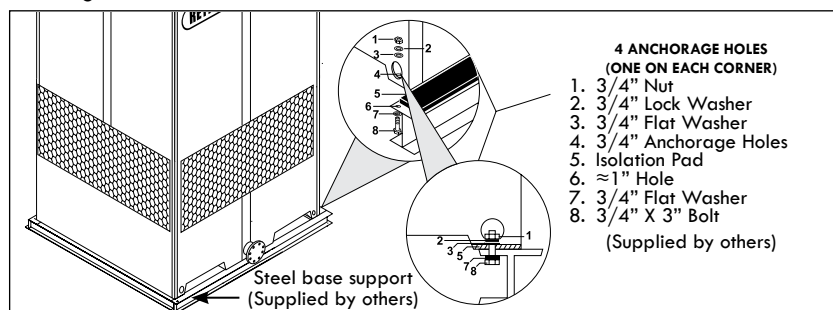

Figure A-35: Typical anchorage for a Single Fan Tower
- I. Place the Tower (unitized body & basin) section on top of the isolation pad and the steel base structure, making sure that the anchorage holes on the bottom of the Tower are aligned with the perforations of the base. Then proceed to bolt it down and secure it with galvanized steel nut and bolt sets (supplied by others) as shown on Figure A-35.